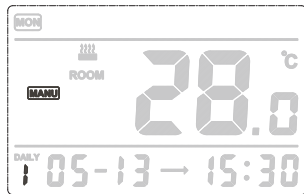

Fig.2
9. The desired hours of the time period 1 display flashing (Fig.2)